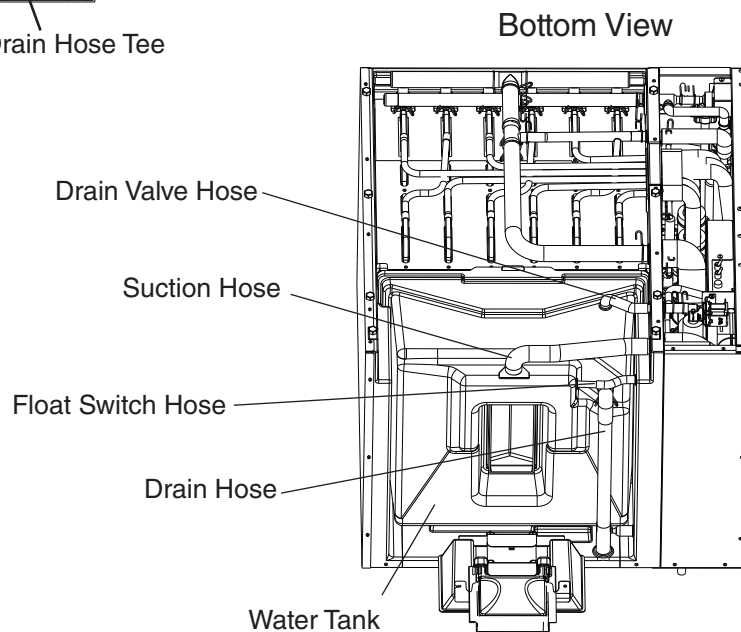

Fig. 5
- 18) Remove the 4 hoses connected to the water tank. Allow the tank and hoses to drain completely. See Fig. 5.